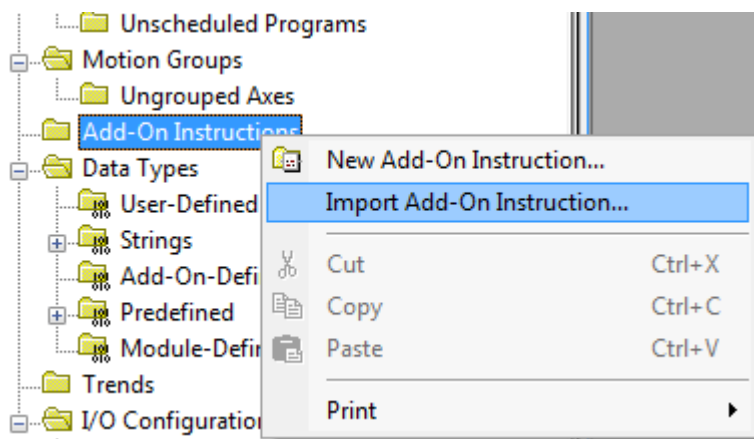

Figure 1 Import Add-On Instruction
3. Select the Add-On Instruction file "VLT", located where you stored the file. The file selection window is illustrated in Figure 1 Import Add-On Instruct